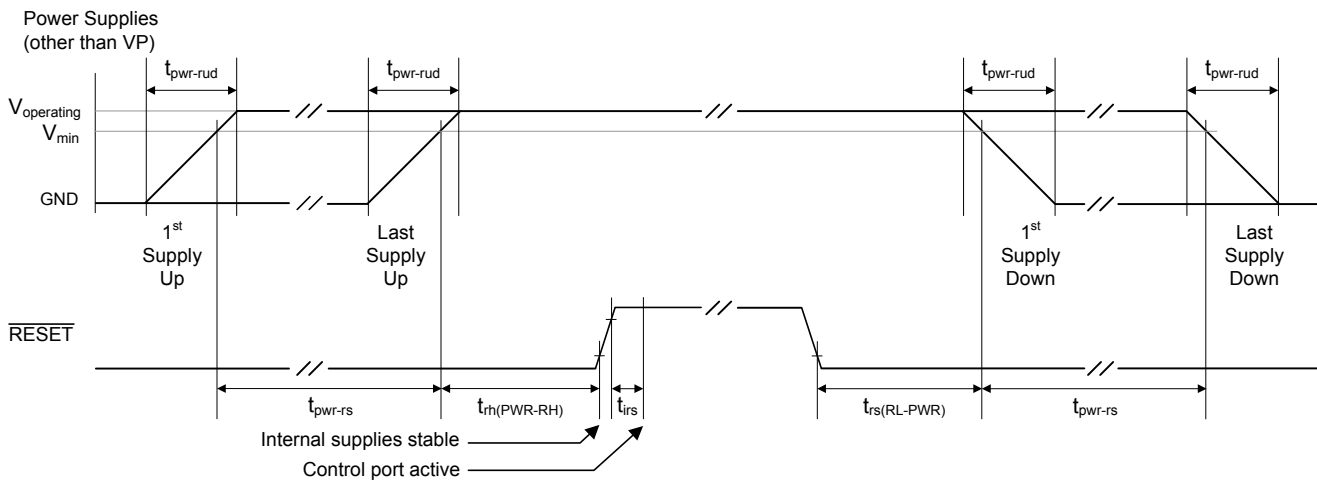

Figure 10. Power and Reset Sequencing
- Refer to Figure 10 on page 36.